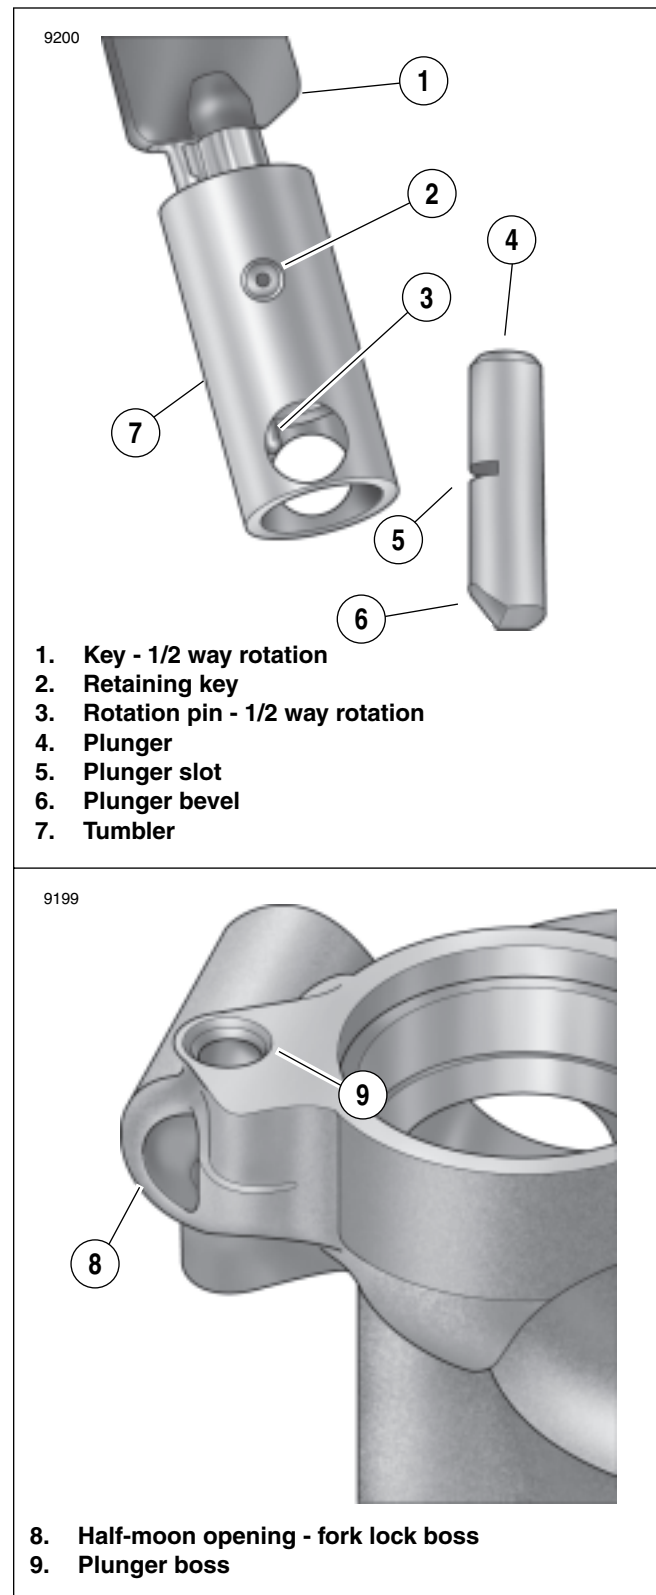

Figure 2-152. Fork Lock Components
2. See Figure 2-152. Insert ignition key (1) and turn 1/2 way so that plunger (4) rotates in plunger boss (9).
3. Look into the half-moon opening (8) on back of fork lock boss. The slot (5) in plunger (4) should be visible in the opening.